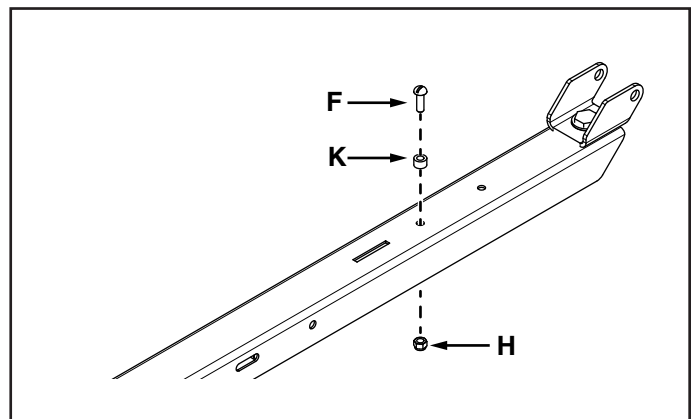

FIGURE 3
STEP 3: (SEE FIGURE 3)
1. Assemble a 5/16" screw (F), a spacer (K), and a 5/16" nylock nut (H) to the tongue.